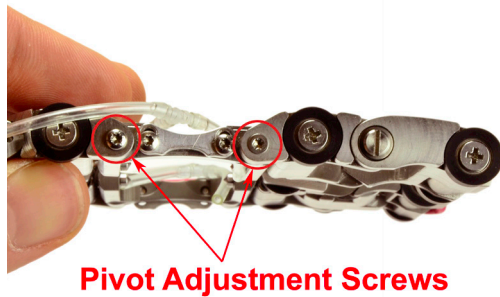
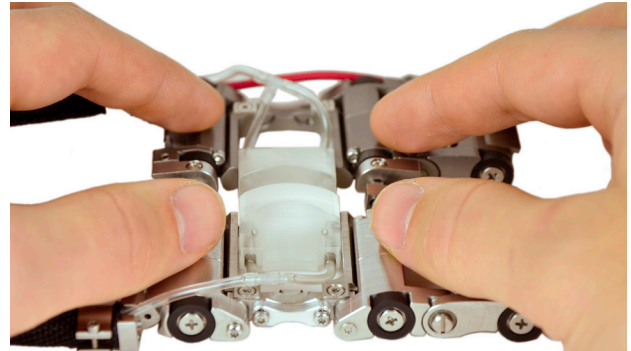

Figure 39 - Loosening Pivot Adjustment Screws
Figure 40
- Loosen pivot adjustment screws (Figure 39) and push scanner against a flat surface (Figure 40)